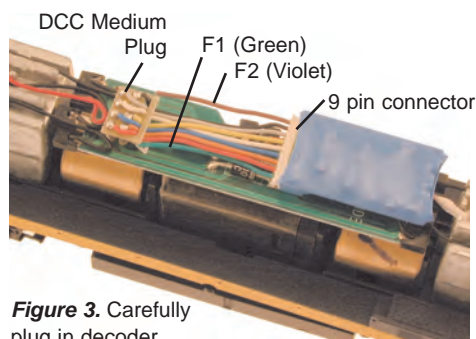

Figure 3. Carefully plug in decoder
3. Insert the DCC plug end of the harness into the socket. The pin with the orange wire plugs into the hole marked 1. **Figure 3** Seat the decoder firmly in the socket.